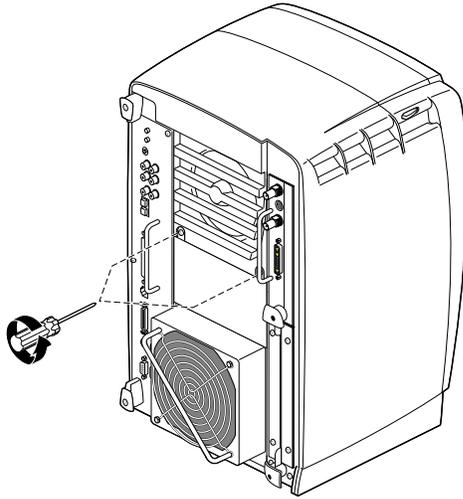

Figure 4-46 Removing the Screws from the Blank Panel
1. Using a Phillips screwdriver, remove the screws from the blank panel, as shown in Figure 4-46.